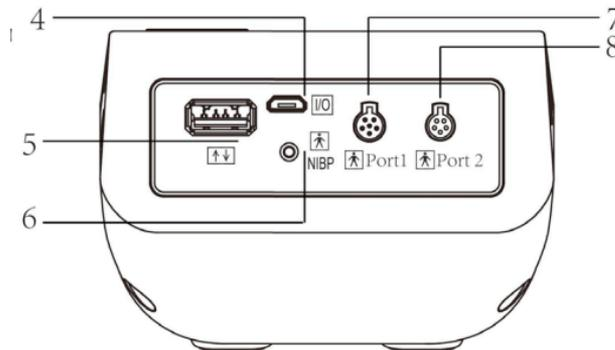
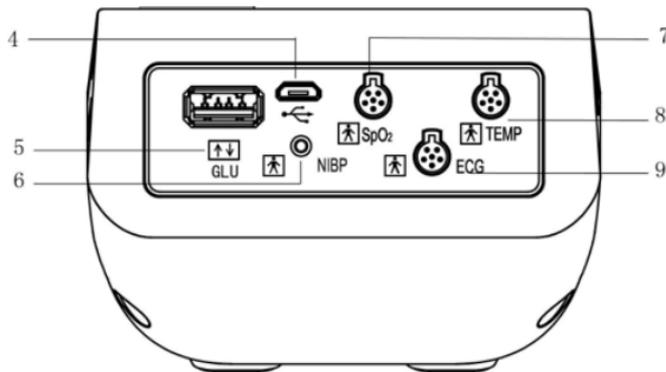

Figure 2.3A Vista lato superiore
Figure 2.3B Upper-side view
**NOTE:** Figure 2.3A is the upper-side-view for the previous version device, and Figure 2.3B is the upper-side-view for the current version device. The difference between the two versions is seen